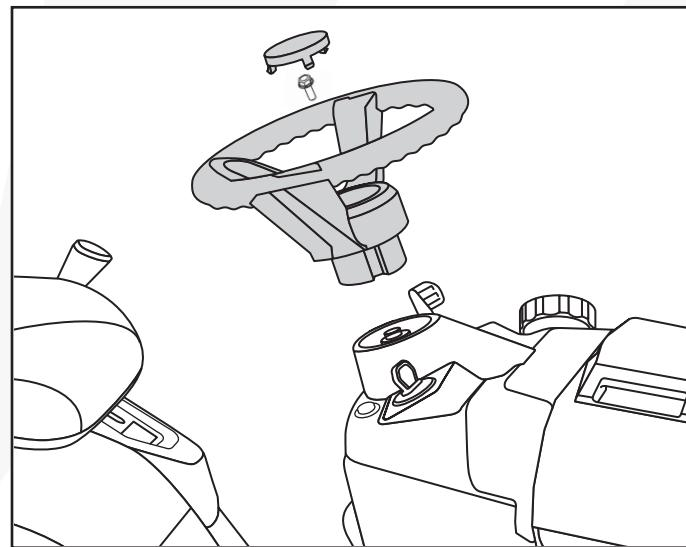

Fig. 4
1. Align the steering wheel with the steering shaft, slide the steering wheel down the shaft until into position, and secure the steering wheel with the bolt provided to a torque of 15-19 ft-lbs. (Fig. 4)